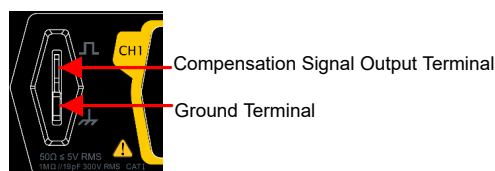

Figure 4.10 To Use the Compensation Signal
2. Connect the ground alligator clip of the probe to the "Ground Terminal" as shown in *Figure 4.10*.
3. Use the probe to connect the input terminal of CH1 of the oscilloscope and the "Compensation Signal Output Terminal" of the probe, as shown in *Figure 4.10*.